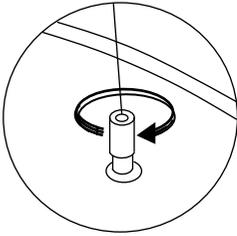

Fig 11
9. Screw holder back into Medea (Fig 11).